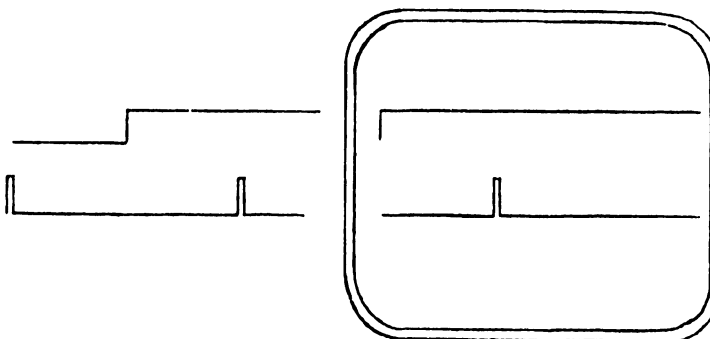

FIGURE 5-1 WS TIMING ADJUSTMENT
5.2 ELECTRICAL ADJUSTMENTS (REFER TO FIGURE 5-1)
5.2.2.1 WS Adjustments - (Figure 5-1) WS is generated by the timing disk teeth passing the magnetic reluctance pickup. This signal must be adjusted by R71 on the 6761 board (2231W-1,-2) and R67 on the 6794 (2231W-3) for a complete cycle of 1600 us +25 as monitored at L19 Pin 5 of the 6761 board on 2231W-1/2, and 6794 board on 31W-3 (negative trigger in noraml trigger mode). R10 must then be adjusted to obtain a squarewave (50% duty cycle).
5.2.2.2 After obtaining the proper waveform for WS (Figure 5-1), the following pulses should be checked and/or adjusted.